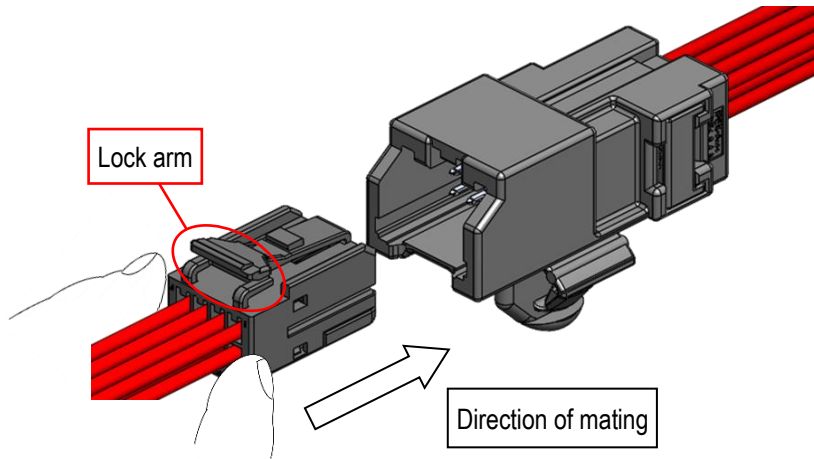

Fig. 44 Mating of connector
- ① Push the female connector that has been installed the retainer in the direction of mating until makes an audible click (see Fig. 44). While mating the female connector, please do not touch the lock arm to prevent insufficient mating.
- ② After that, pull the female connector lightly to check that the female connector is locked.